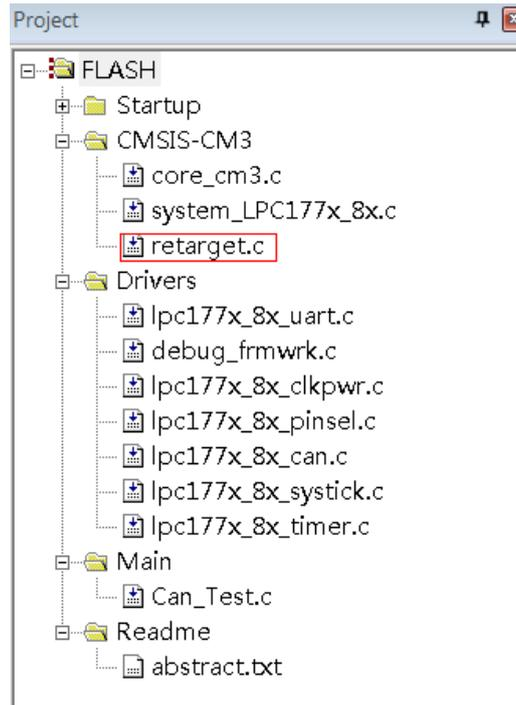

Figure 3-22
(1) Add retarget.c files to project which defines fputc function. retarget.c file in \05-MDK_Source\common\CoreSupport directory. User is advised to add retarget.c file to CMSIS-CM3 group, as shown in figure 3-22: